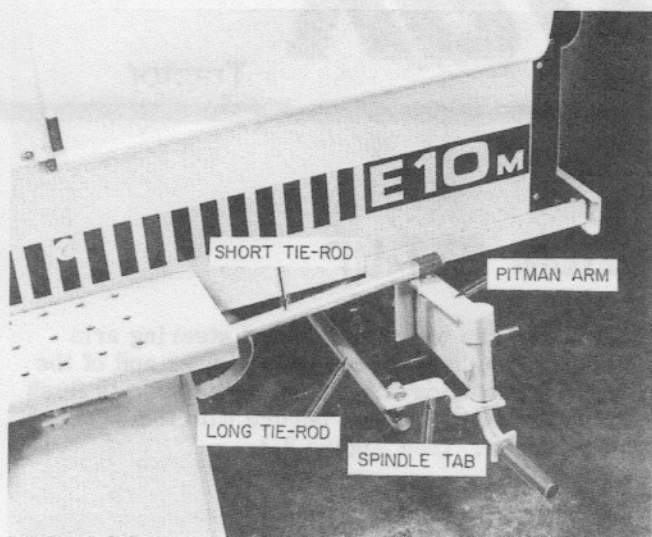

Figure 3
8. Install the short tie rod between the steering arm tab on the lower end of the steering assembly and the Pitman arm which is attached to the right-front-wheel spindle. Install so the threaded studs of the ball joints extend down through the arm tabs. Secure with lockwashers and nuts. (See Figure 3.)
9. Install the long tie rod so the threaded studs of the ball joints extend up through the spindle tabs. Secure with lockwashers and nuts. (See Figure 3.)